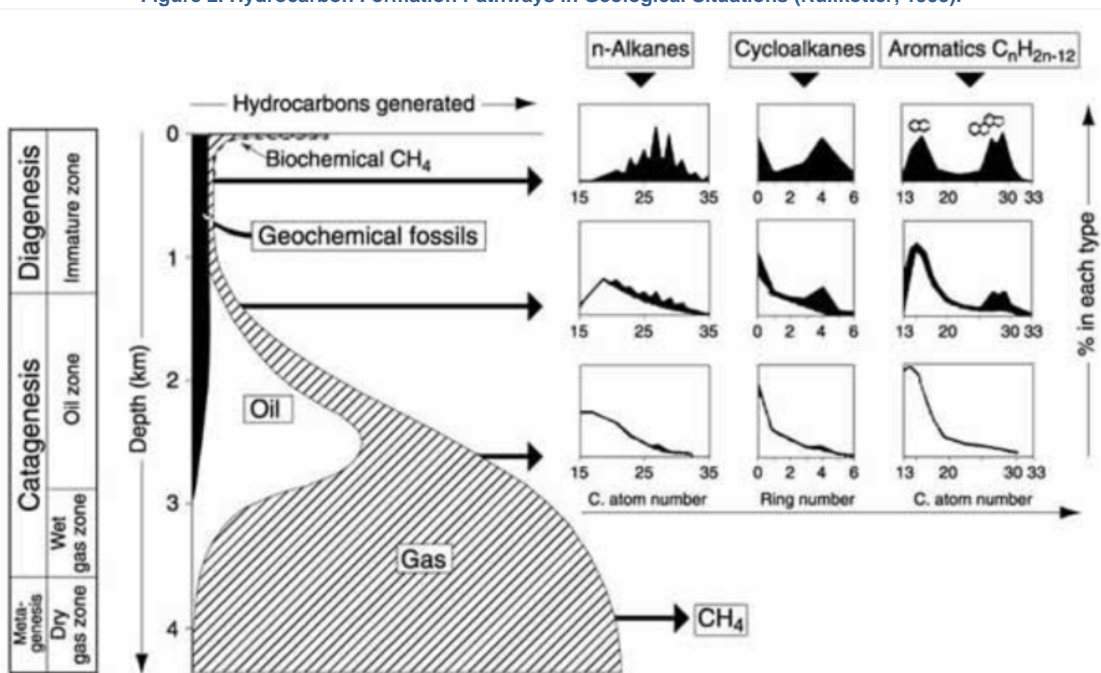

Figure 3. Hydrocarbon Generation Resulting from Burial of Organic Matter during Geologic Time.
- Dry gases (mainly methane) are derived from liquid hydrocarbon accumulation in the crust (Figure 3). C₁–C₄ hydrocarbons may be generated in significant quantities in sediment via biogenic and thermogenic processes.